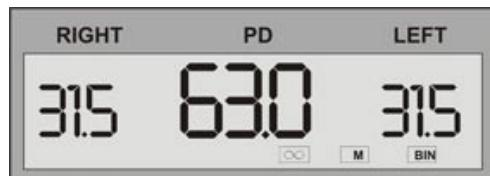

Fig.11
3.6 Memory of the Measured Data (as shown in Fig. 11)